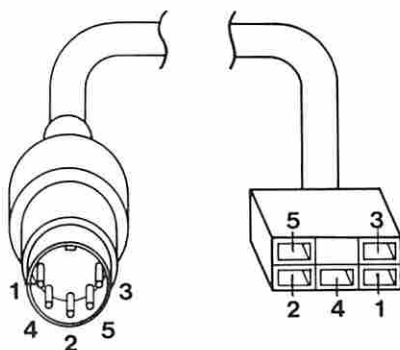

Figure 3. Continuity Check
- Check continuity of the cable (Figure 3).